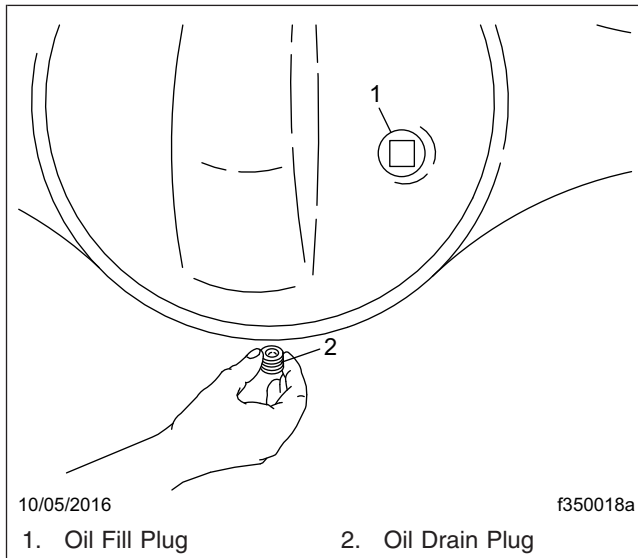

Fig. 7, Axle Housing Drain and Fill Plugs
2. Clean the fill plug and the area around it. In the axle housing rear cover, remove the plug from the oil fill hole (or standpipe, if installed in the oil fill hole). See **Fig. 7**.
3. Place a drain pan under the rear axle drain plug. See **Fig. 7**. Drain the oil at normal operating temperature, 150 to 200°F (65 to 93°C). At this temperature, the oil will run more freely and ensure that the axle is flushed.